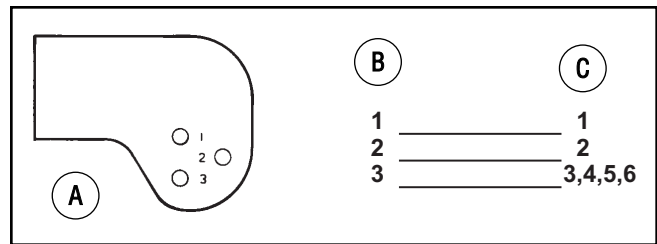

Figure 34: Gauge wheel bracket positions
3. Look at each **gauge wheel bracket**. There are 3 holes in each bracket and a number next to each hole. The number for the height of cut position on the **deck lift lever** indicates the correct hole to use on each **gauge wheel bracket** (Figure 34).
4. Assemble the axle bolts to the **gauge wheel brackets** using the correct hole in the bracket as indicated (Figure 34).
NOTE: If the height of cut position is changed by the deck lift lever, you must move the gauge wheels to the correct hole (Figure 34) to keep a level height of cut.